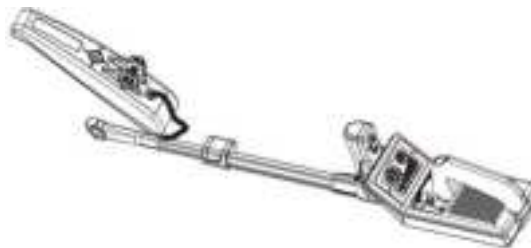

Figure 11
- b. Gently take out the receiver tray and receiver host. Do not pull the connection cable on the receiver tray with strong force. (See Figure 11)